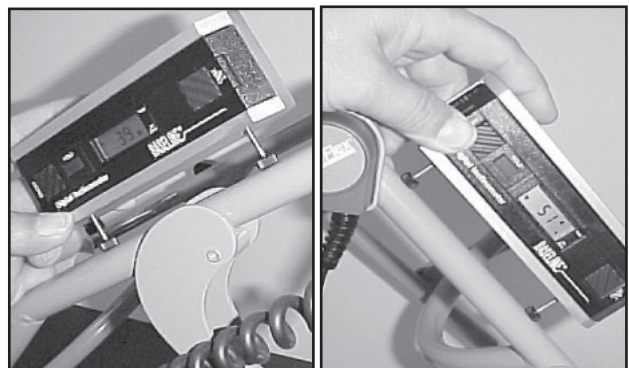

FIGURE 5.6
10. Using the Inclinometer or Protractor, measure the angle of the flexion of the unit. **Refer to Figure 5.6.**
In **Figure 5.6**, a Digital Inclinometer is used to measure each side and the two numbers are added together.